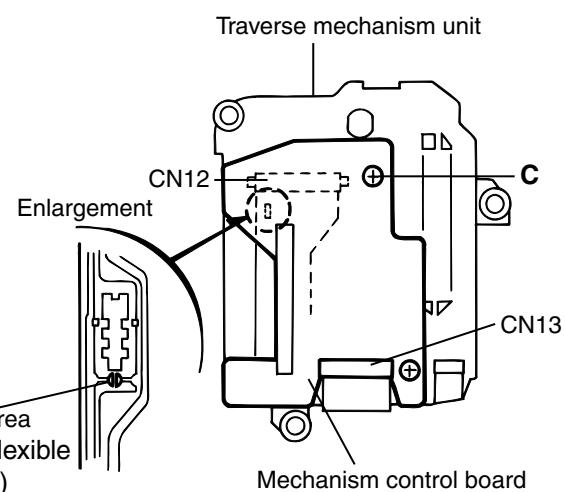

Fig.5
■ Removing the traverse mechanism unit (See Fig.5)